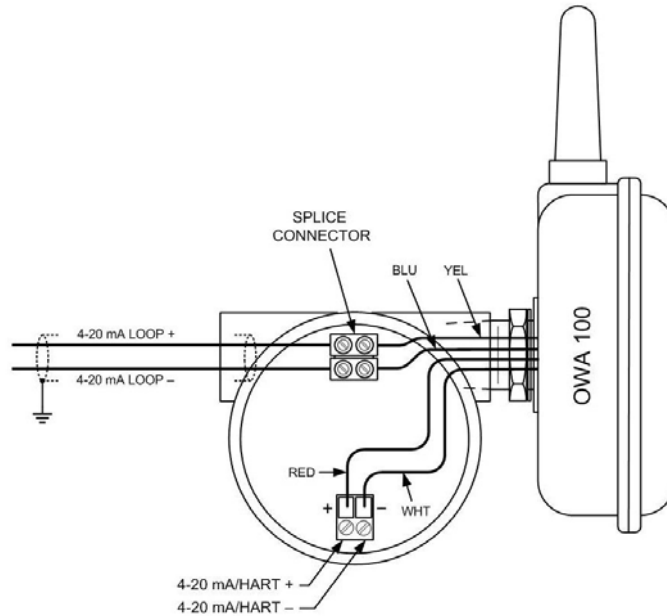
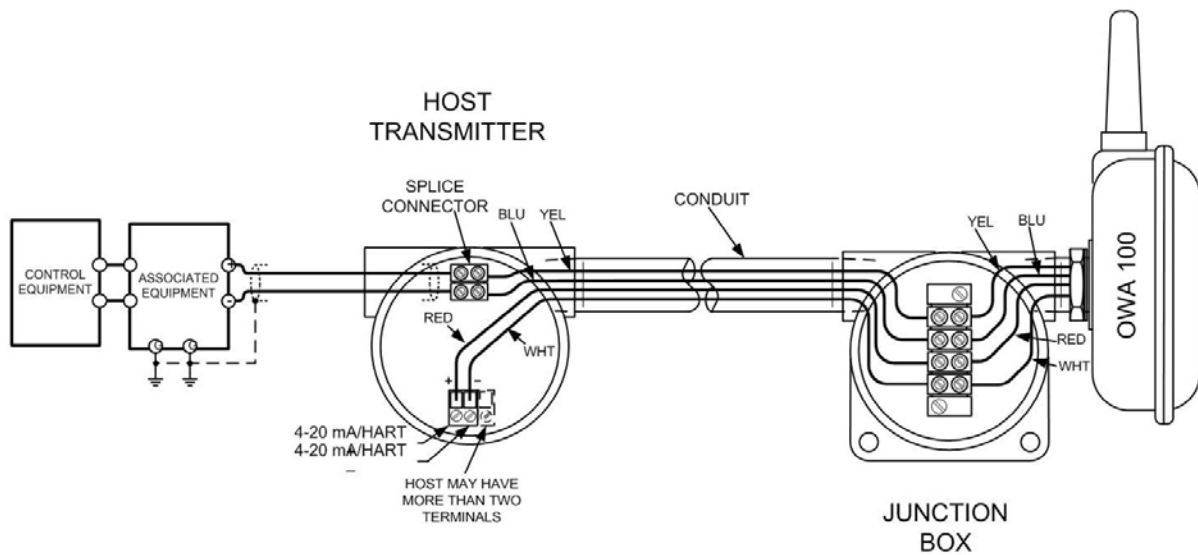

Figure 3-4 OWA 100 – TWO-WIRE CONFIGURATION
Figure 3-13 REMOTE INSTALLATION
5. Install the four wires per the OWA 100 Adapter Interconnection Diagram per Figure 3-4 to Figure 3-13.